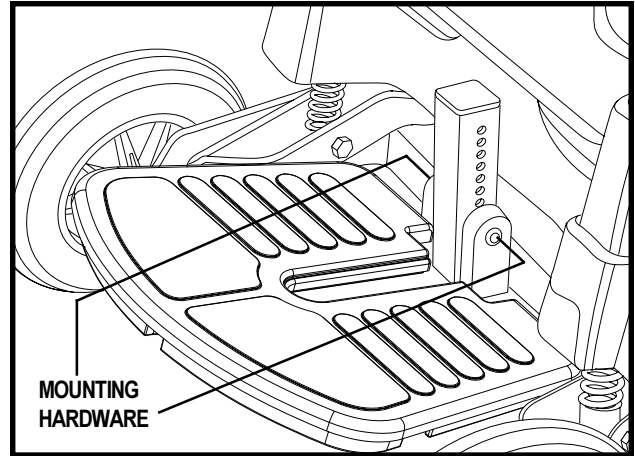

Figure 19. Footrest Height Adjustment
1. Remove the mounting hardware from the footrest bracket. See figure 19.